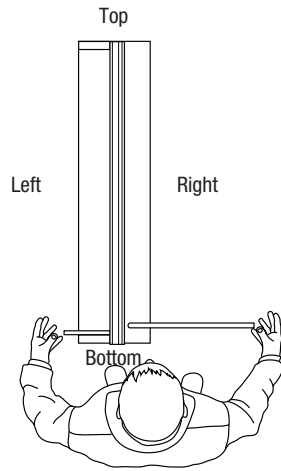

Fig. 2
1. Remove blade knob and blade cover. (Fig. 2)